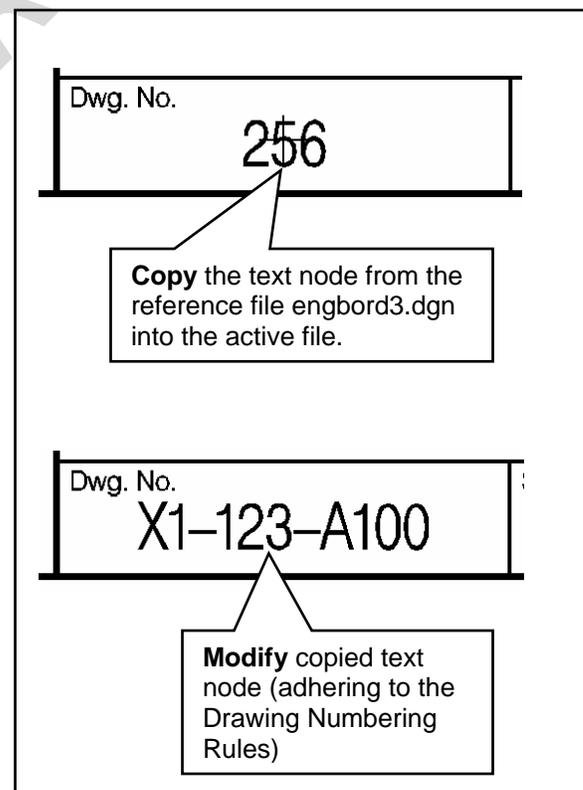

Figure 15 – Drawing Number
- Separate “Contract Number” and “Discipline” fields with **hyphens**. (See Figure 15)
To place a Drawing Number on a sheet, **copy** the preset text node from the referenced border file into the active drawing file – **modify** the copied text as required. (See Figure 15)